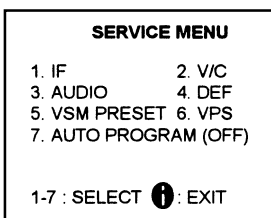

Fig. 1
- 2) The SERVICE MENU screen shown in Fig. 1 will be displayed.